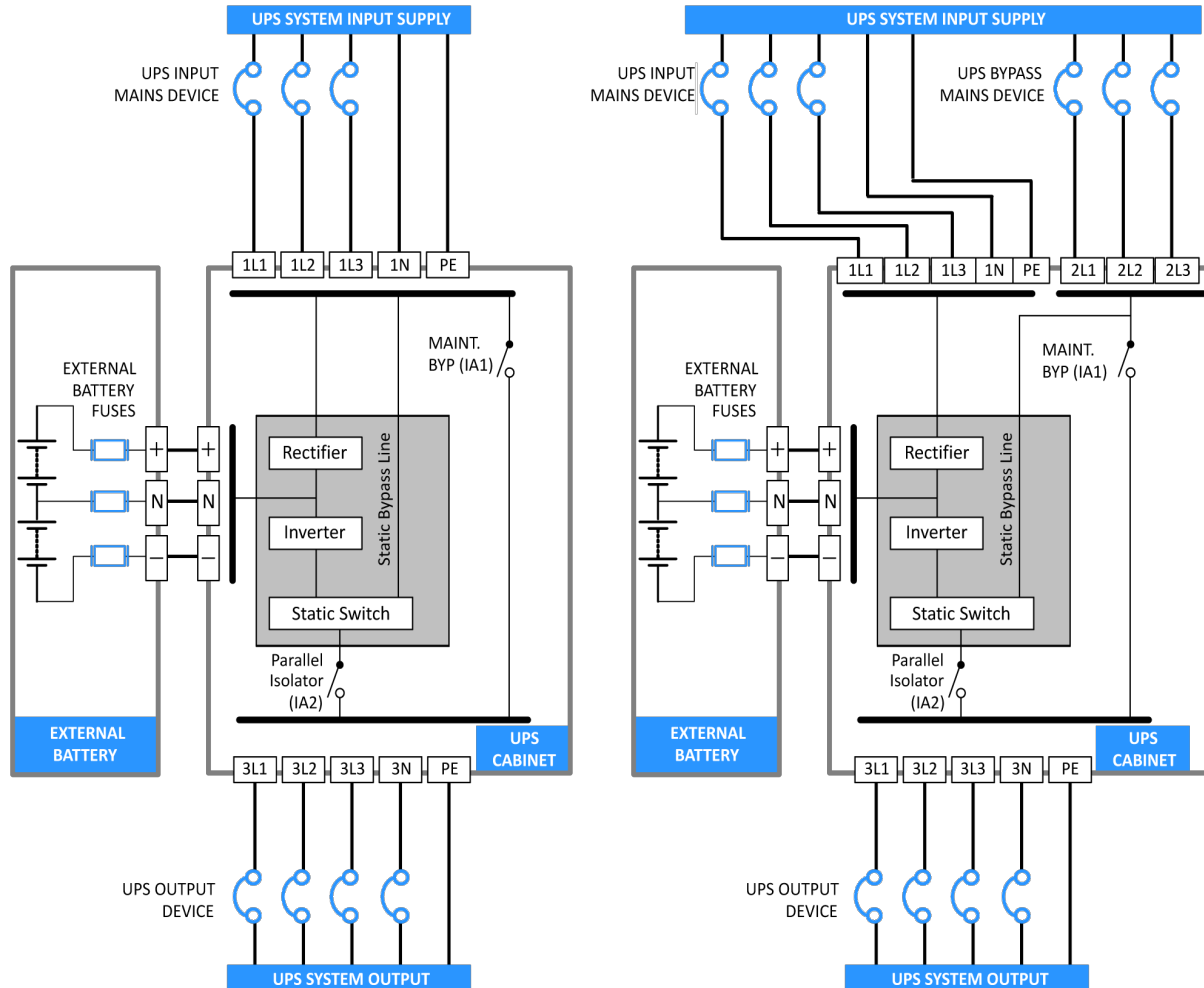

Figure 3.2 Power connections for single feed (left) and dual feed installations
The UPS cabinet can be designed for a single feed input, where the input mains supply is connected internally to the bypass mains terminals, or for a dual feed input where the UPS bypass mains is connected to a dedicated mains supply. The two designs are shown in Figure 3.2. Note that the input configuration must be chosen when placing the UPS order as it is not possible to change the configuration on site.
As shown in Figure 3.2, the UPS input mains and bypass mains should be connected to the UPS via a circuit breaker or fused input device suitably rated to provide overload protection for the UPS and also a means of isolating the UPS from the mains supply.
The battery installation requires fuses fitted in the battery positive, negative, and mid-point (neutral) feeds, as shown in Figure 3.2. Uninterruptible Power Supplies Ltd. can supply a range of matching battery cabinets containing the necessary fuses and switchgear on request.
3. Refer to the left-hand schematic drawing in Figure 3.2.
6. Refer to the right-hand schematic drawing in Figure 3.2.